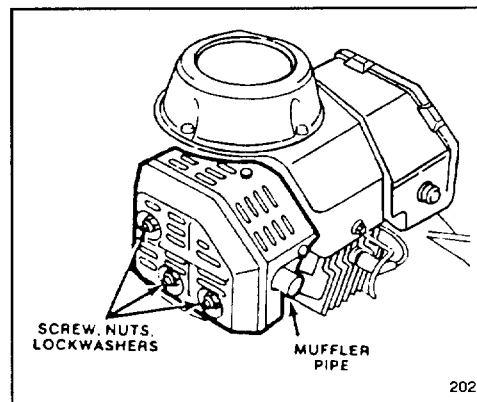

Figure 11
1. Use hard wood scraper and remove carbon from end of muffler pipe (Fig. 11).
2. Remove screw, two nuts, and lockwashers (Fig. 11). Slide muffler off mounting pins.